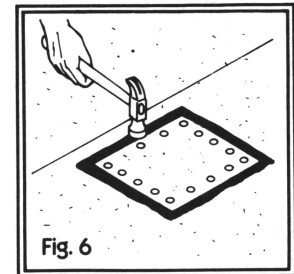
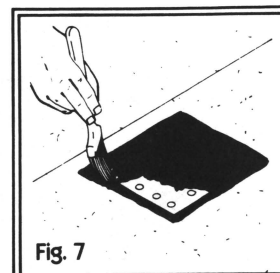

Fig. 6
Fig. 7
3. Cut a piece of roofing felt a little larger than the crack. Place it over the cement and press it firmly in place. Nail the edges on the felt piece, spacing the nails 1 to 1½ inches apart (fig. 6). Spread another layer of cement over the felt piece. Make sure the cement extends to 1 to 1½ inches beyond all edges of the felt piece (fig. 7).
Place the oversized felt strip over the cement and press it firmly in place. Using broad-head roofing nails, nail the strip along all four edges. (Similar to fig. 6.) Then cover the strip with cement, making sure that the cement extends 1 to 1½ inches beyond all edges of the strip. (Similar to fig. 7.)